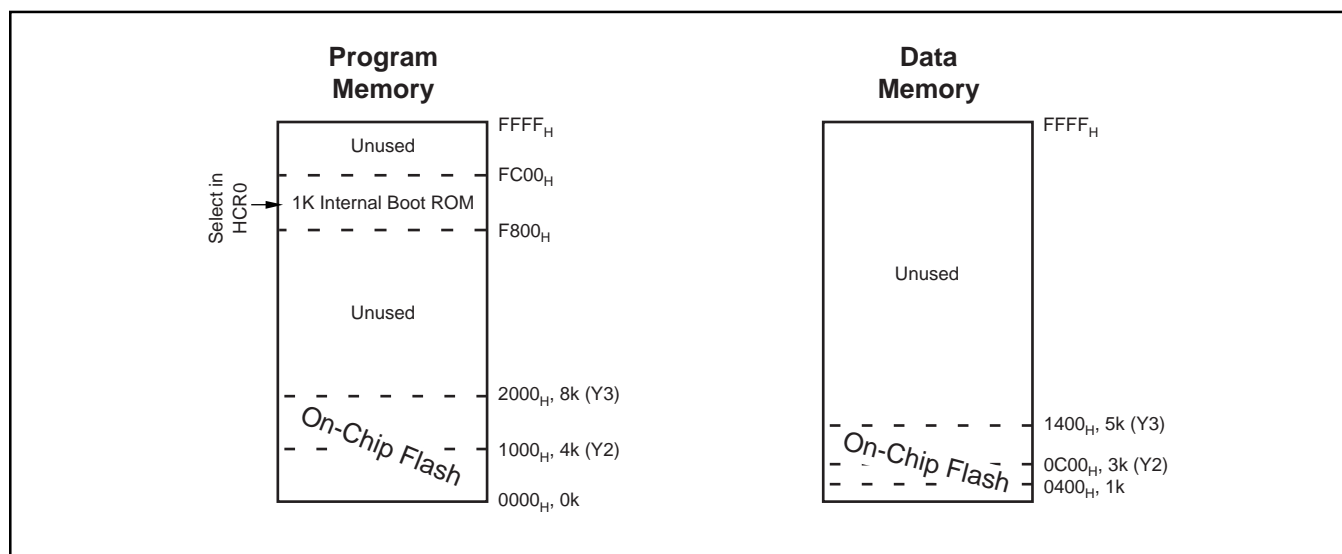

FIGURE 18. Memory Map.
The MSC1200 allows the user to partition the Flash Memory between Program Memory and Data Memory. For instance, the MSC1200Y3 contains 8kB of Flash Memory on-chip. Through the HW configuration registers, the user can define the partition between Program Memory (PM) and Data Memory (DM), as shown in Tables III and IV and Figure 18. The MSC1200 family offers two memory configurations.